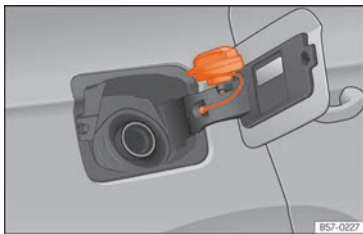

Fig. 184 Fuel tank flap with tank cap attached.
- Place it in the space on the hinge of the open flap >>> Fig. 184.